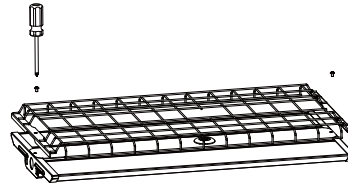

Figure 8
Step2.Place the wire guard on the lamp and fix it with screws.[Figure 8]